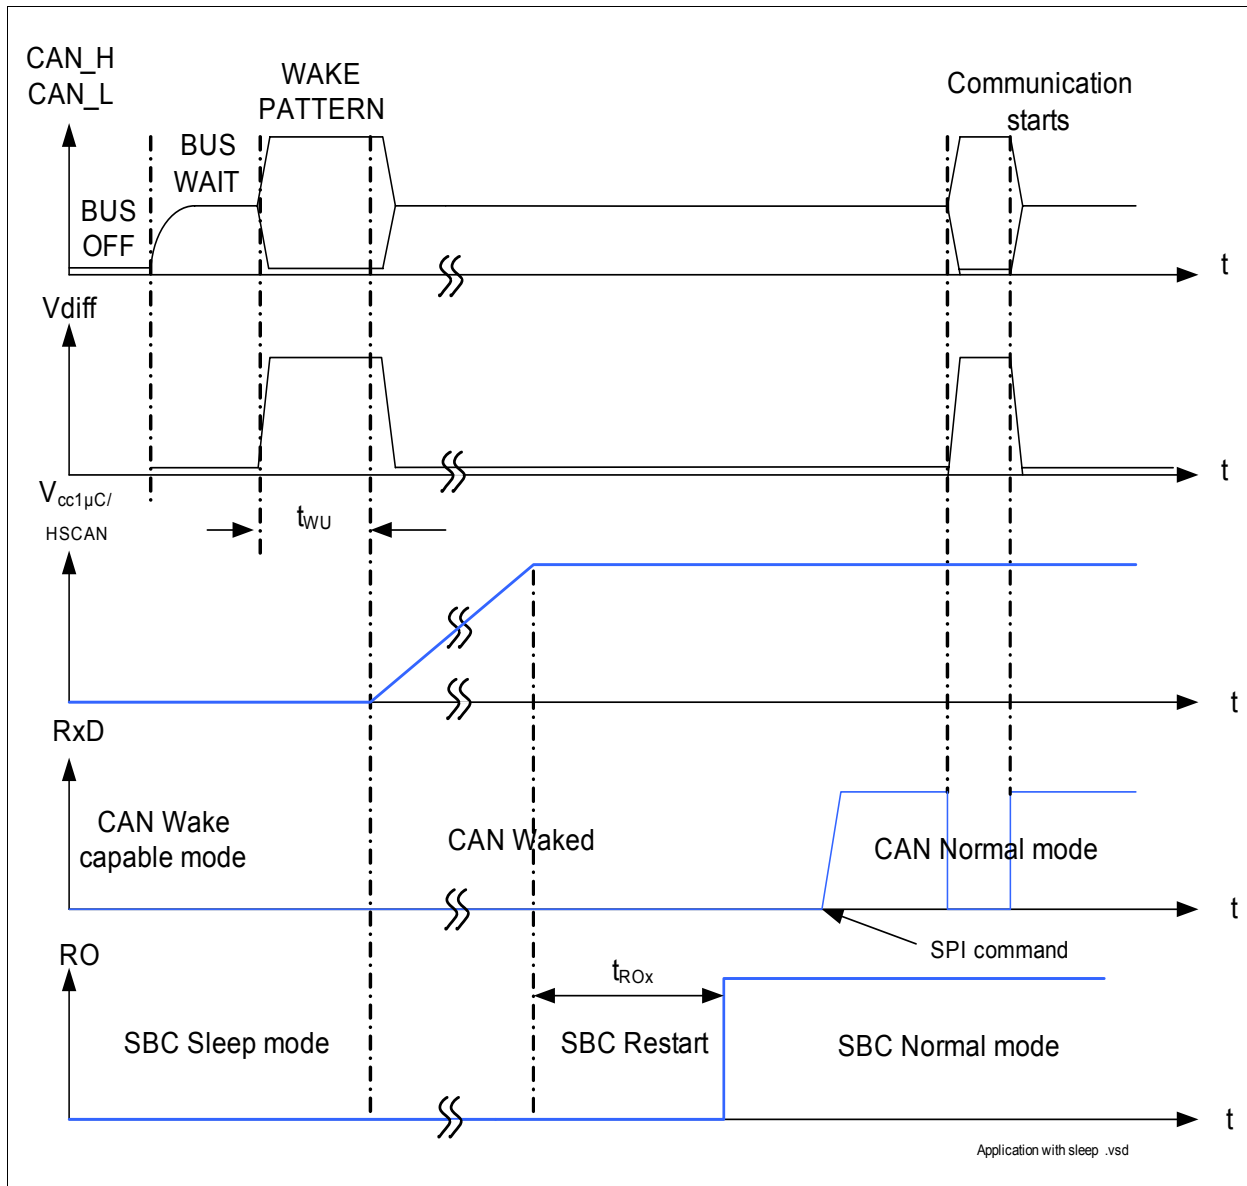

Figure 11 Timing during Transition from Sleep to Normal Mode
Refer to Figure 11 for a description of the matching of the transceiver modes with the SBC mode.
Wake-up is possible via a CAN message (filtering time $t > t_{WU}$), it automatically transfers the SBC into the SBC Restart Mode and from there to Normal Mode the RxD pins in set to LOW, see Figure 11. The microcontroller is able to detect the low signal on RxD and to read the wake source out of the “Wake Register Interrupt” register (000) via SPI. No Interrupt is generated when coming out of Sleep Mode.
In SBC Sleep Mode, a wake-up on the CAN cell will set the SBC to Restart Mode automatically if the CAN Wake Capable Mode of the SBC is selected via SPI. **Figure 11** shows the typical timing.